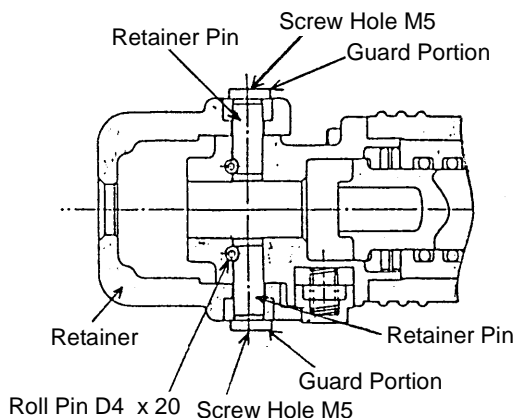
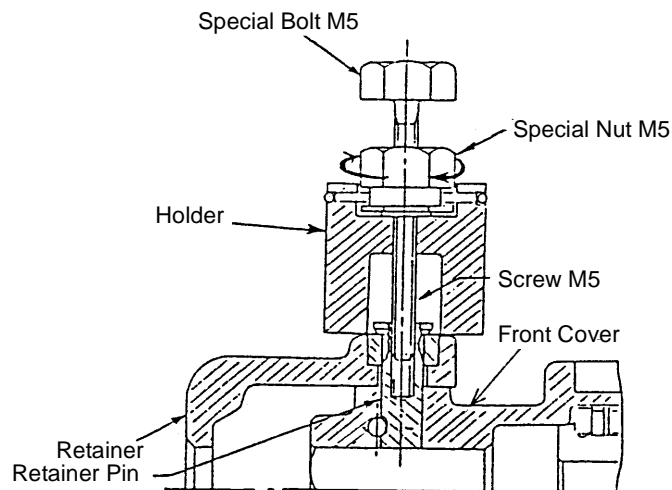

Fig. 10
Fig. 11
* Retainer Disassembly: (See Figs. 10 and Fig. 11)